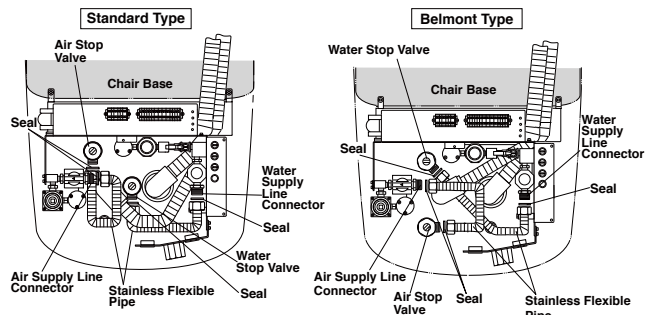

Fig.6-9 Water and Air Supply Line Connection
(4) Water and Air Supply Line Connection
- B. Connect the water supply line to the water stop valve with the stainless flexible pipe and the seals. (Fig.6-9)
- C. Connect the air supply line to the air stop valve with the stainless flexible pipe and the seals. (Fig.6-9)